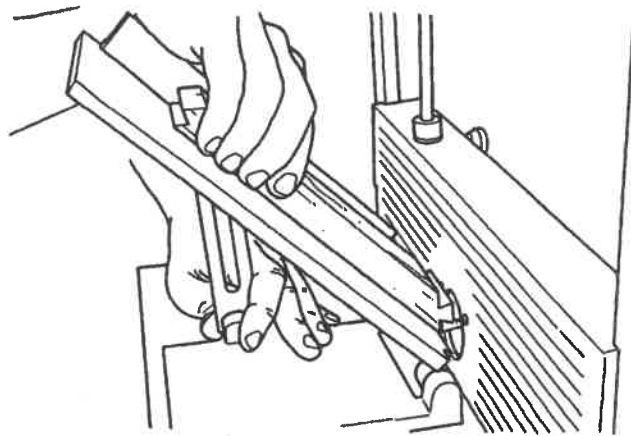
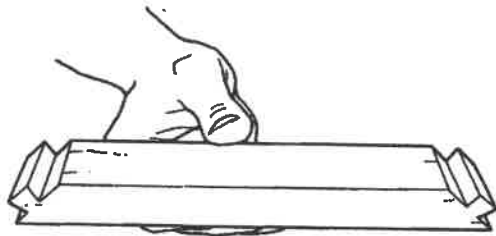

Fig. E-20
Fig. E-21
34. Turn on the Dust Collector and router. Make the cut, as shown in Fig. E-20 on both ends of the brace. If there is material remaining below the bit, lower the bit 2 or more turns and clean off the wood on both ends. Fig. E-21 illustrates the completed pins on each end of the brace.